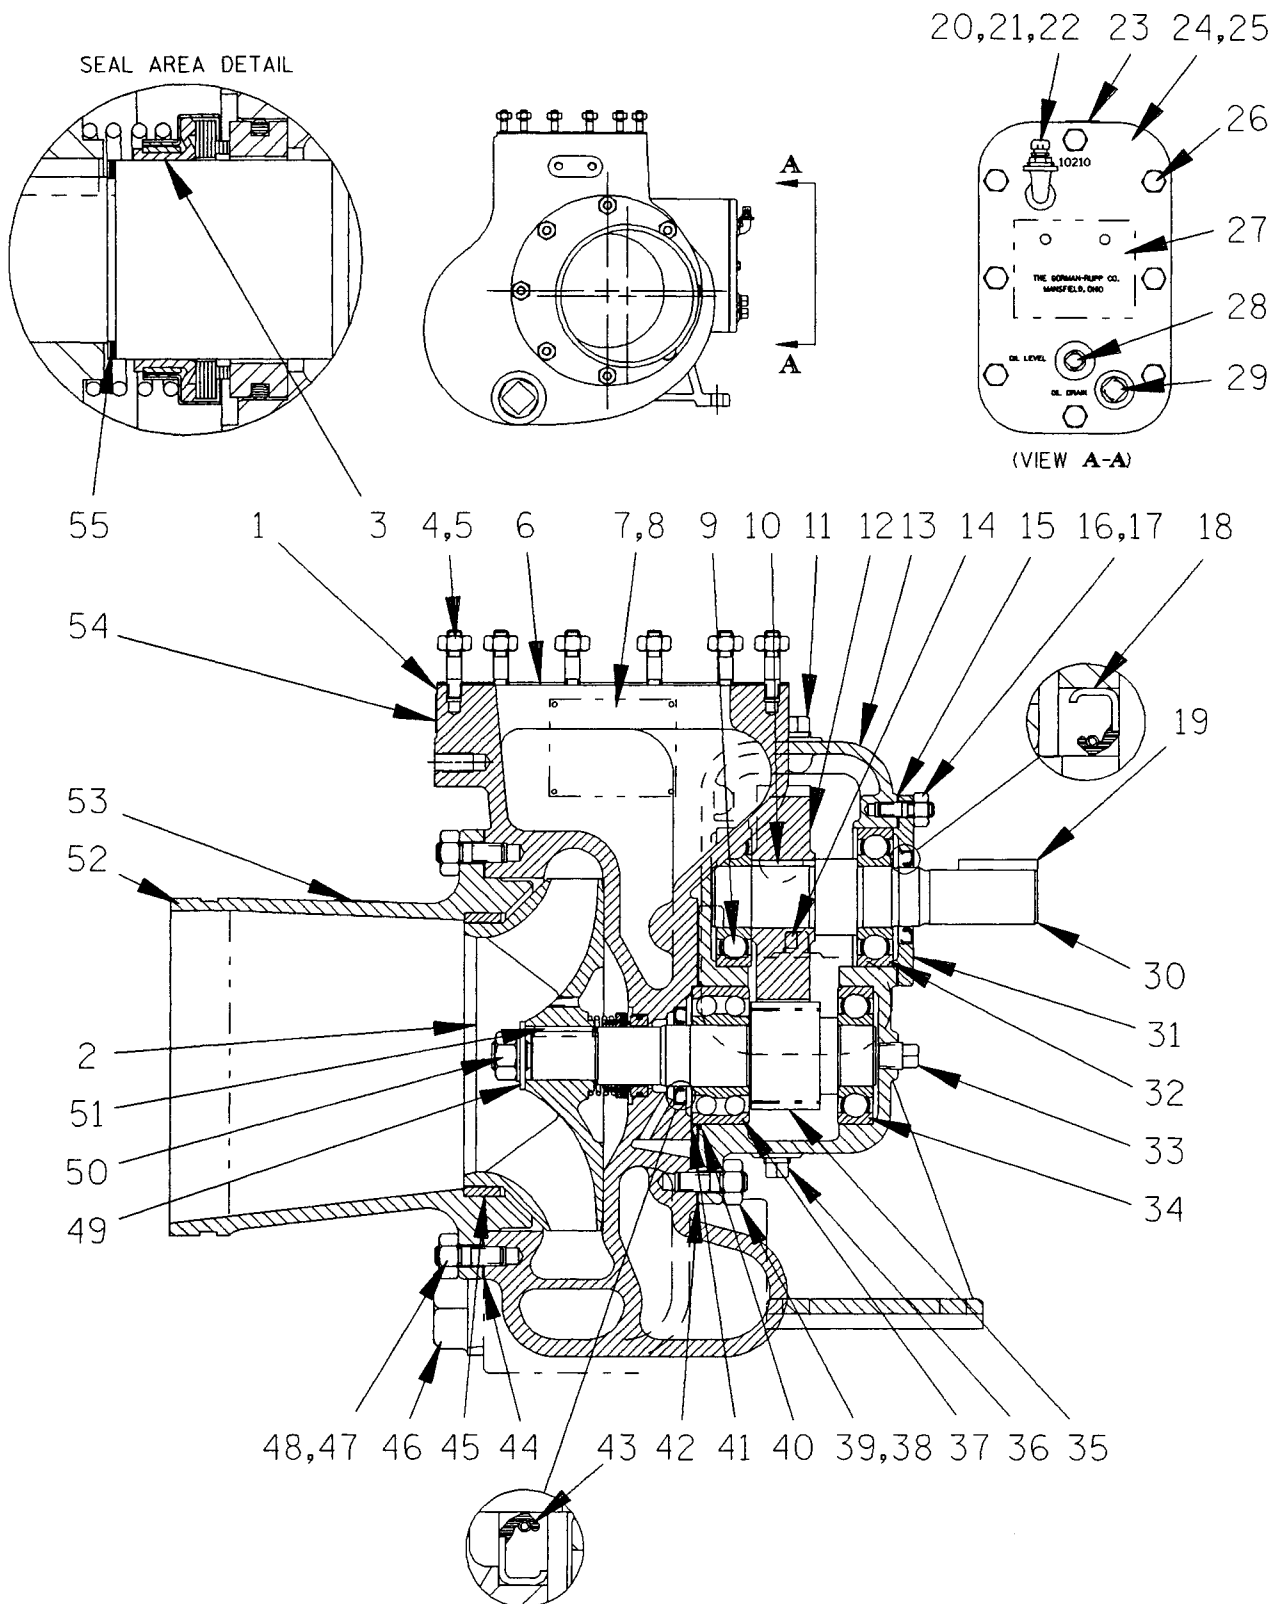

Figure 1. Pump Model 08C1-GAR
This pump requires little service due to its rugged, minimum-maintenance design. However, if it becomes necessary to inspect or replace the wearing parts, follow these instructions which are keyed to the sectional view (see Figure 1) and the accompanying parts list.
Position the oil seal (43) in the casing bore with the lip positioned as shown in Figure 1. Press the oil seal into the bore until fully seated against the bore shoulder.